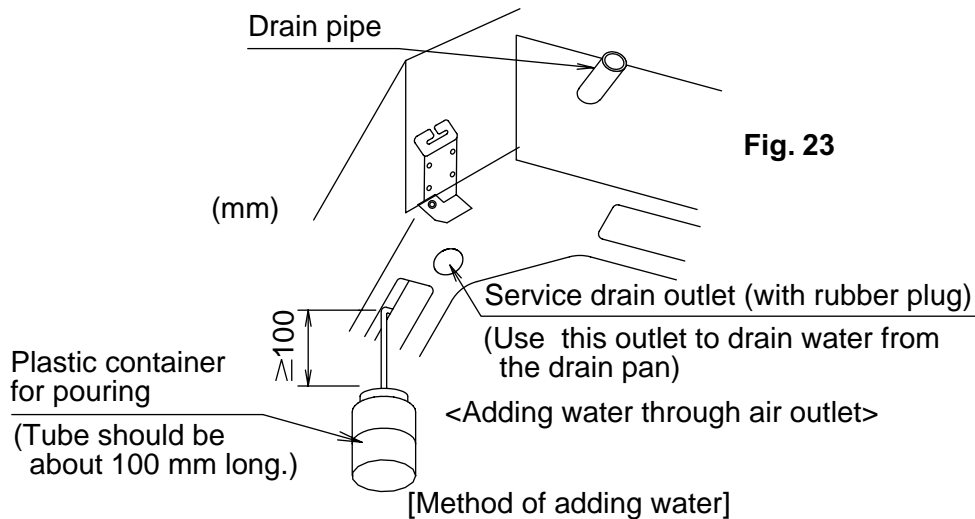
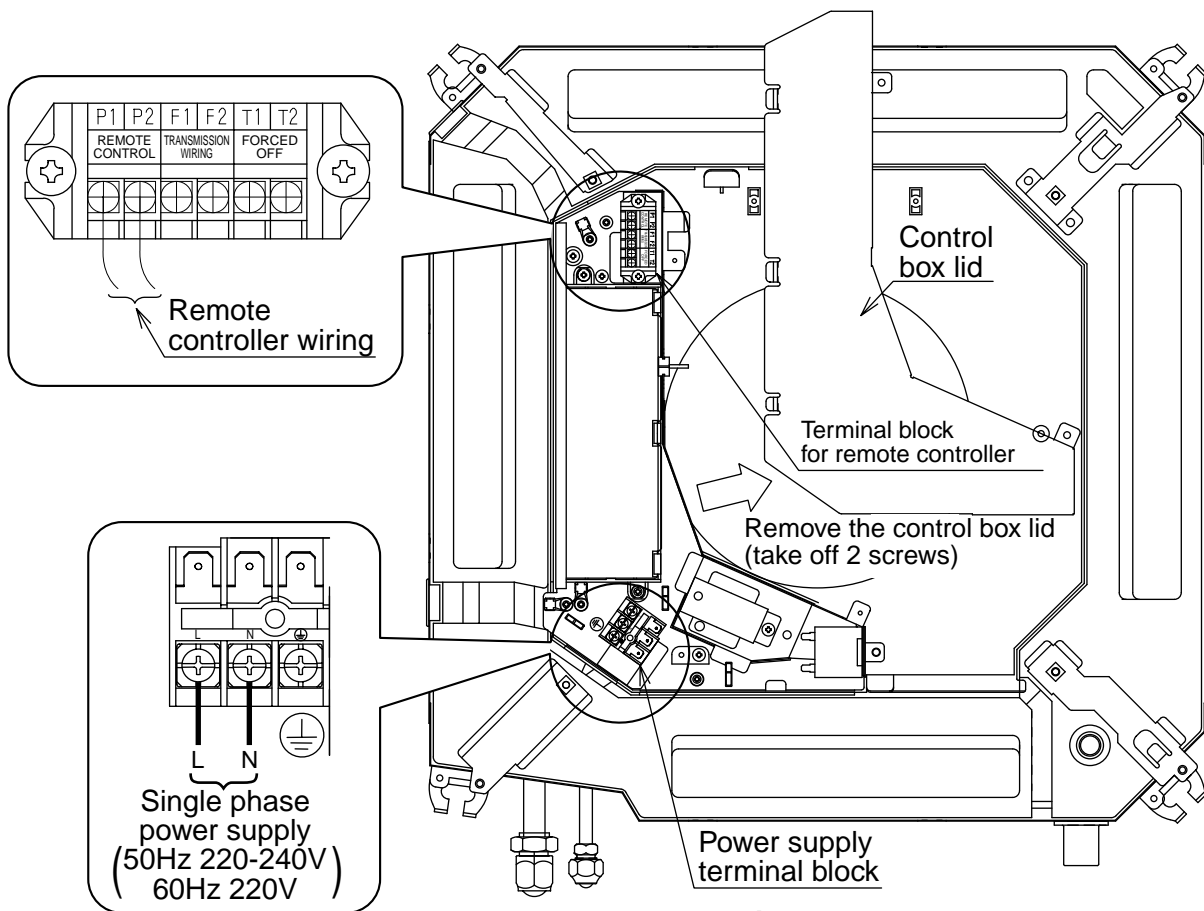

Fig. 23
Fig. 24
- Remove the control box lid, connect a power supply (SINGLE PHASE 50Hz 220-240V or 60Hz 220V) to connections L and N on the power supply terminal block and remote controller to terminal block for remote controller. When carrying out wiring work around the control box, make sure none of the connectors come undone. Be sure to attach the control box lid before turning on the power. Next, press the inspection/test operation button “” on the remote controller. The unit will engage the test operation mode. Press the operation mode selector button “” until selecting FAN OPERATION “”. Then, press the ON/OFF button “”. The indoor unit fan and drain pump will start up. After confirming drainage (Fig. 23, Fig. 24), turn off the power and remove the power supply. Press “” to go back to the first mode.